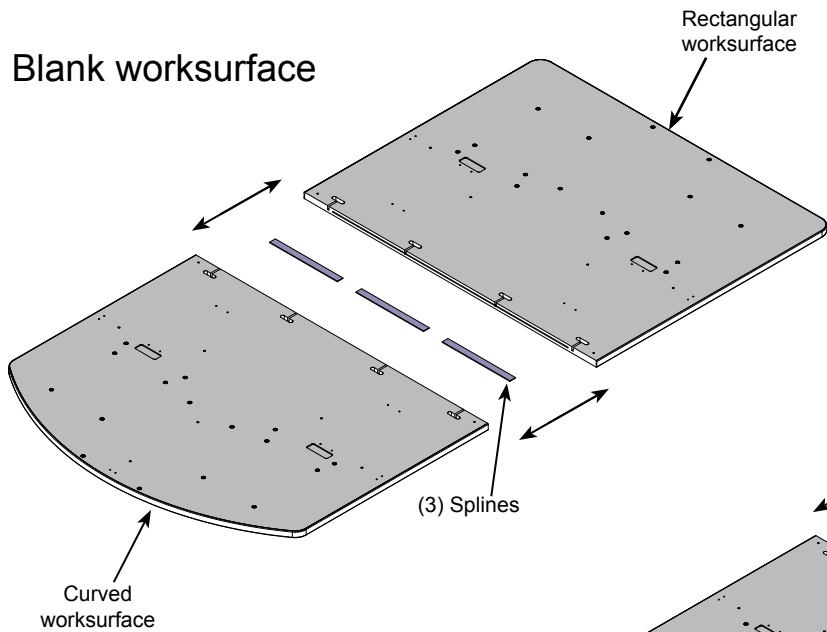
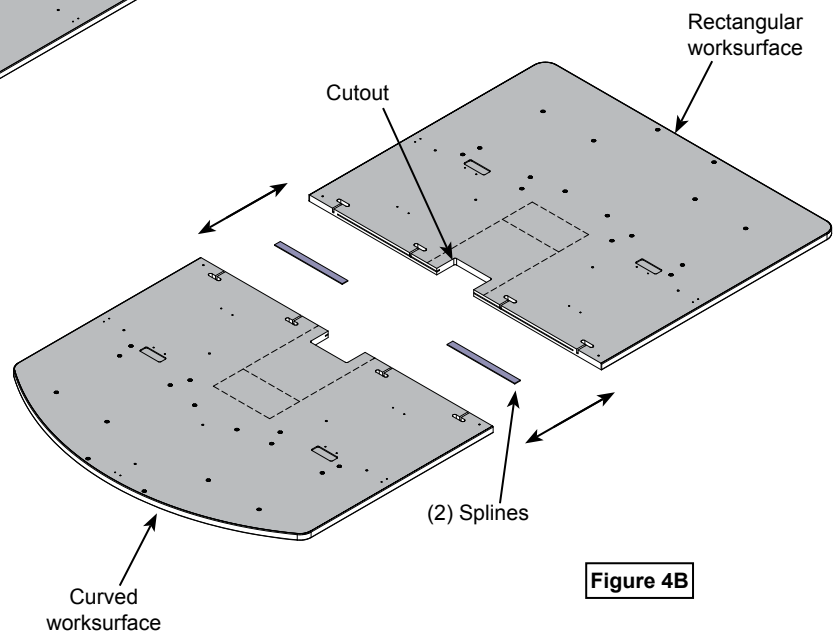

Figure 4A
Figure 4B
2. Insert splines into the worksurface edge slot. For a blank worksurface, use (3) splines **Figure 4A**. For a worksurface with cutouts, use (2) splines. **Figure 4B**.